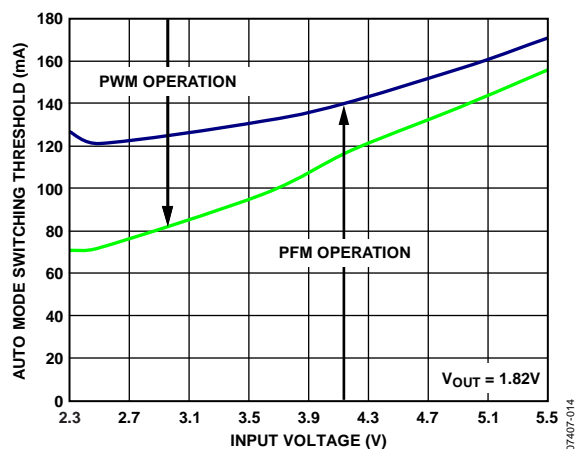
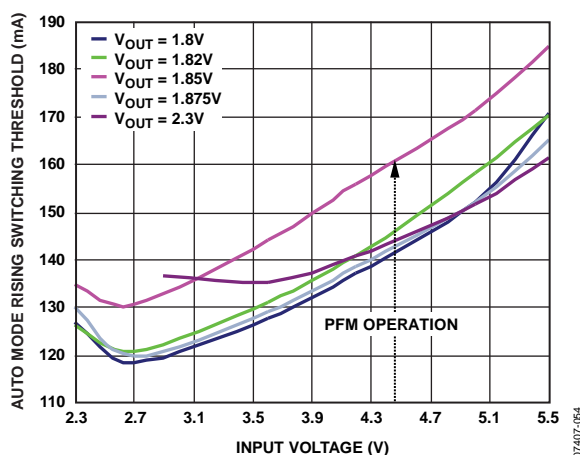
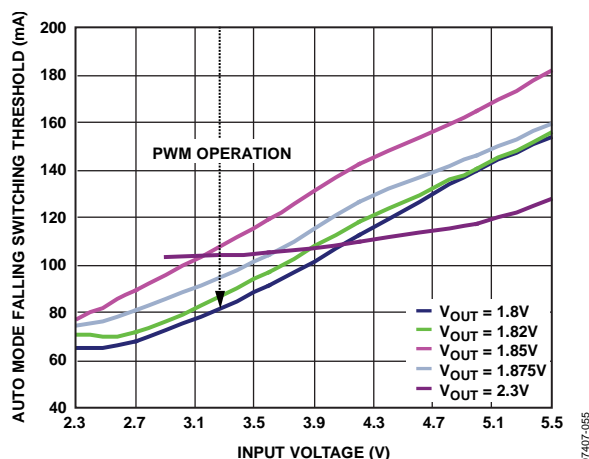

Figure 22. Auto Mode Switching Threshold vs. Input Voltage
Figure 23. Auto Mode Rising Switching Threshold vs. Input Voltage for All Voltage Options
Figure 24. Auto Mode Falling Switching Threshold vs. Input Voltage for All Voltage Options
*PFM AND PWM THRESHOLD VARIES WITH INPUT VOLTAGE. SEE FIGURE 22, FIGURE 23 and FIGURE 24 FOR TYPICAL VALUES.
When the MODE pin is low, the converter switches between PFM and PWM modes automatically to maintain optimal transient response and efficiency. The mode transition point depends on the input voltage. Hysteresis exists in the transition point to prevent instability and decreased efficiencies that could result if the converter were able to oscillate between PFM and PWM for a fixed input voltage and load current. See Figure 22, Figure 23, and Figure 24 for typical values.